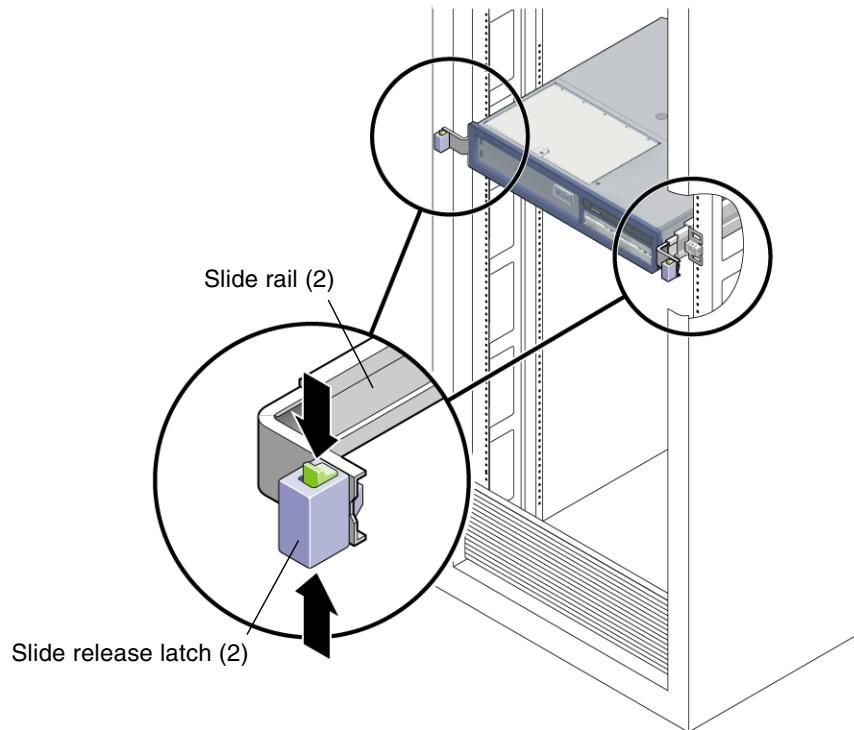

FIGURE 3-2 Slide Release Latches
3. **From the front of the server, release the two slide release latches (FIGURE 3-2).**